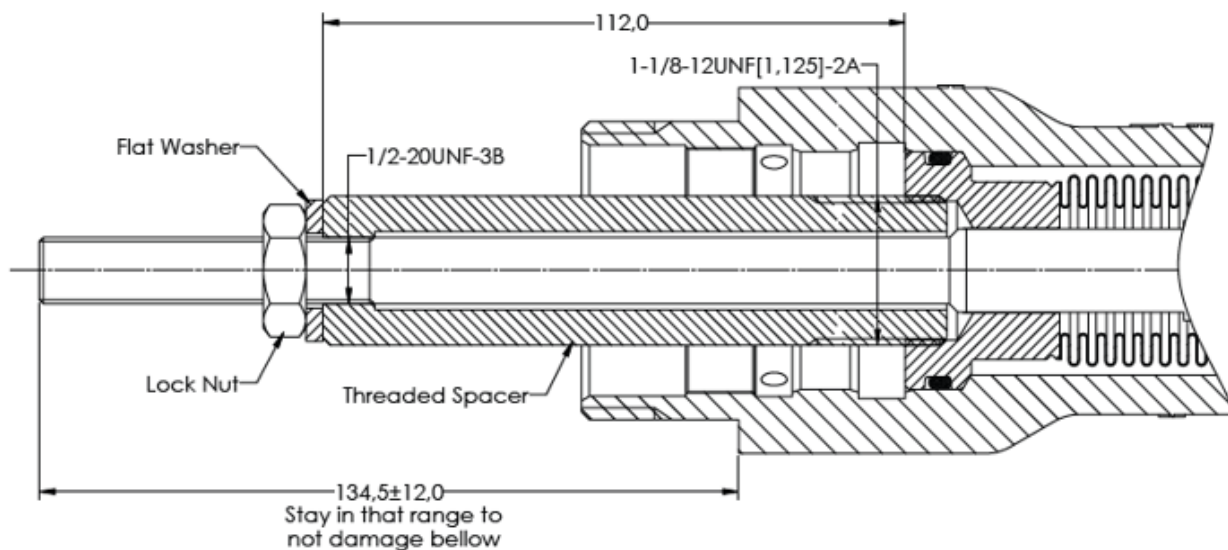

Figure 4 - Bellow and Stem Sub-Assembly Pulling Out Tooling
- Remove stem-bellow S/A (B124) by the top of the bonnet extension (B007). Use tooling shown in Figure 4 on page 14 to avoid damaging/breaking bellow during disassembly.
- Insert the new stem-bellows sub-assembly (B124) through the top hole into the bonnet extension (B007). Use tooling shown in Figure 4 on page 14 to avoid damaging/breaking bellow during assembly.